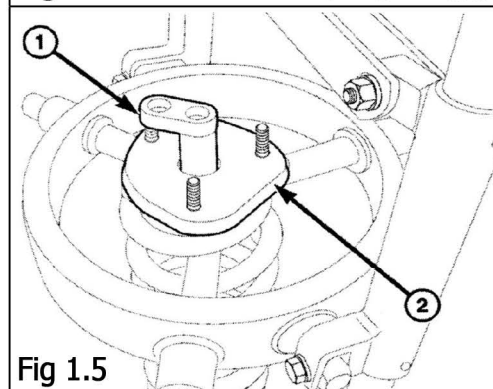

Fig 1.5
13. Using hand tools remove shock center nut 18mm while holding 8mm shock shaft from rotating Do not spin shock shaft with power tools. Internal damage may result. See Fig 1.5